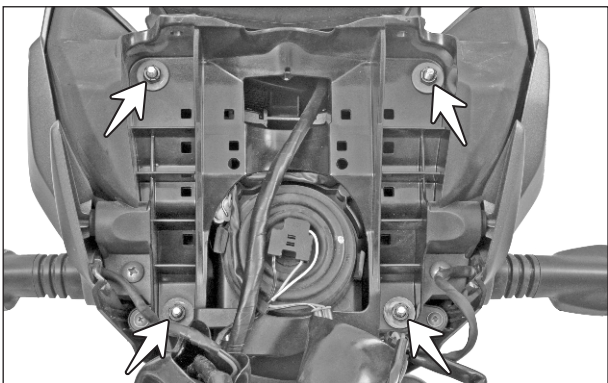

Fig. 5.51
- Remove the hexagonal nuts (M6 - 4 nos.) from the bracket housing head lamp along with the punched washer. (Fig. 5.51)